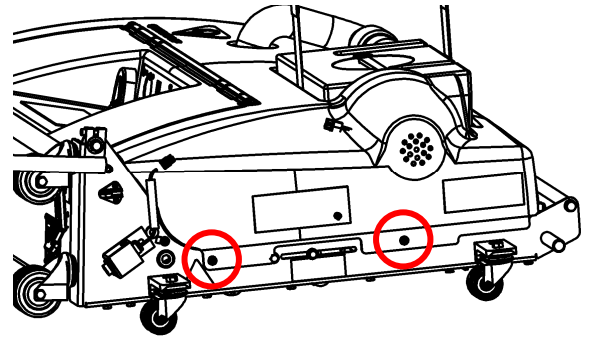

Figure 4-31
1. Unlatch the oil compartment door latches, disconnect the vacuum hose and remove the waste tank, remove the cap from the cleaner tank, remove the two screws from each side of the hood (see Figure 4-31), and lift the hood from the frame. Set the screws aside.